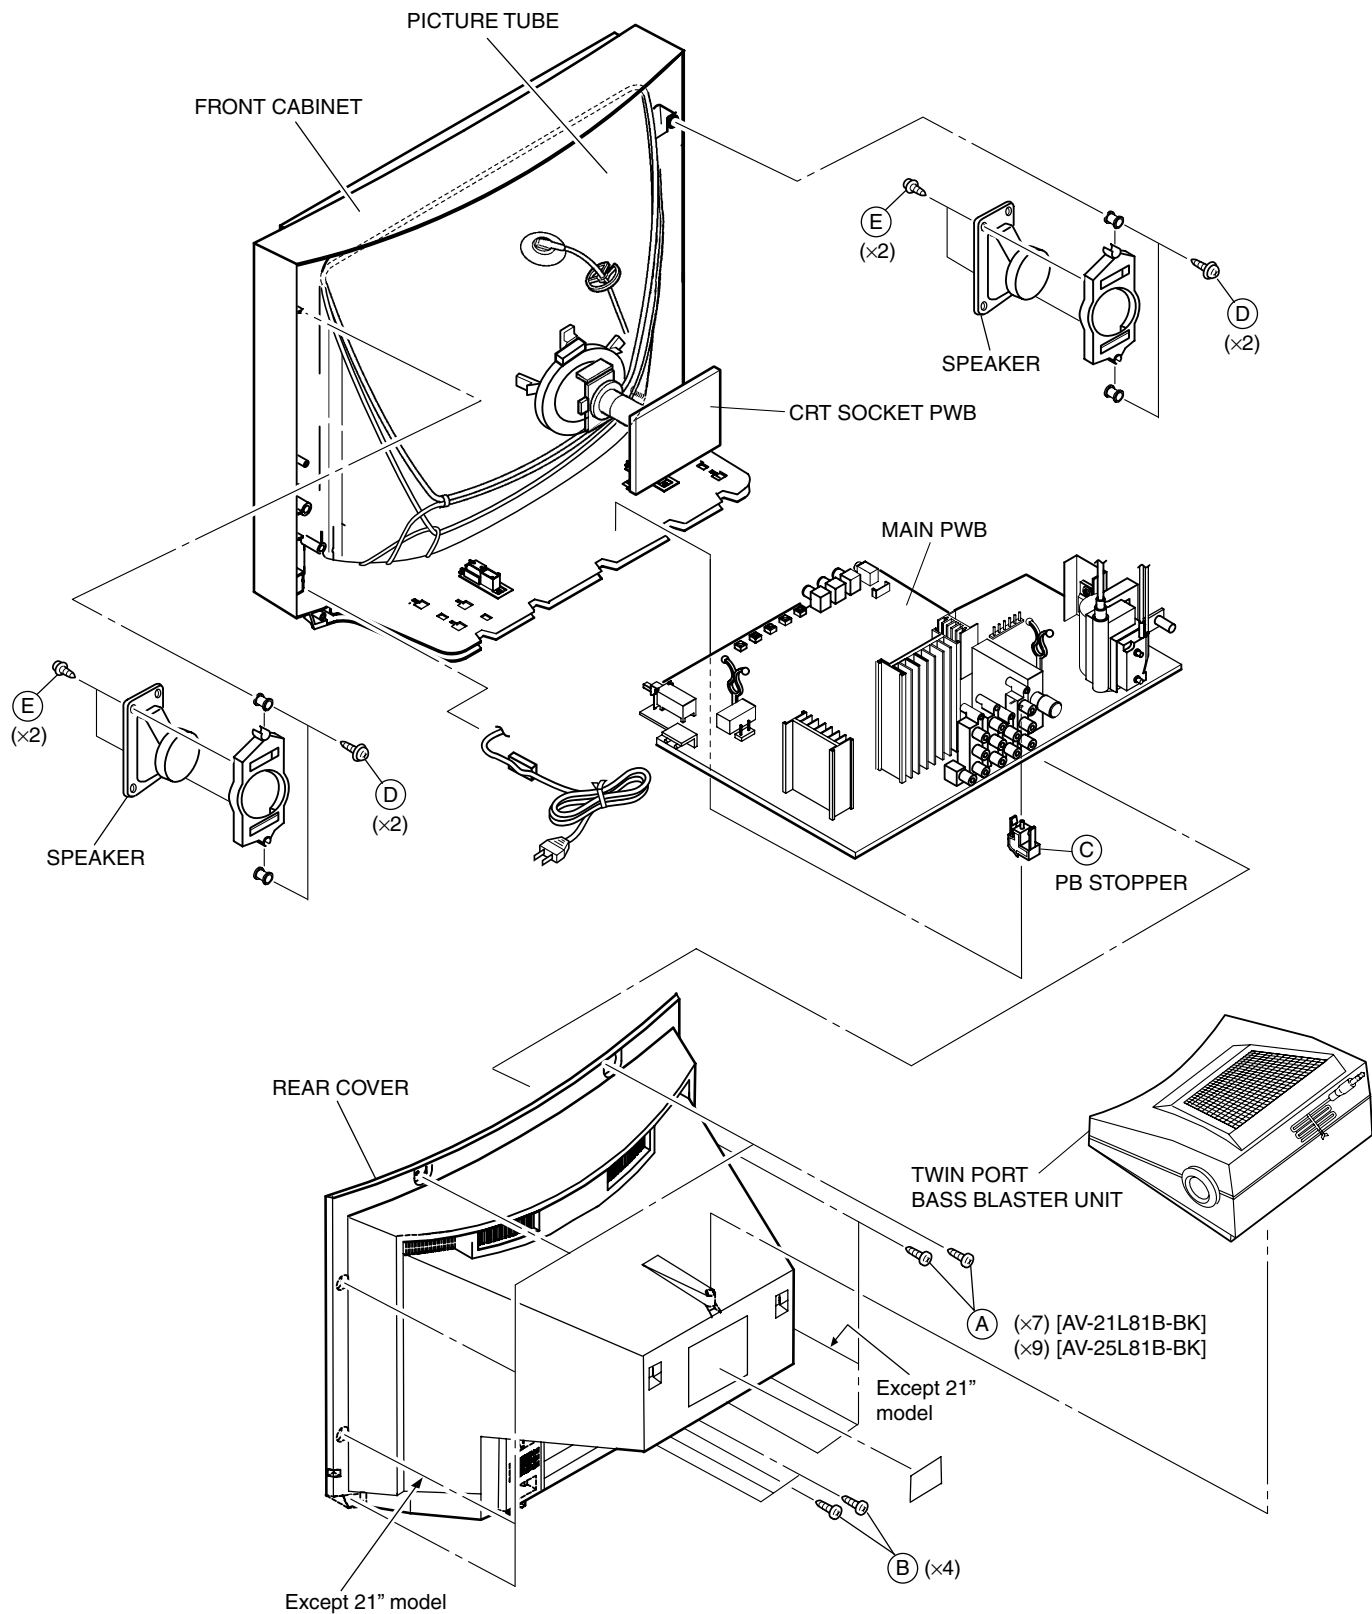

Fig.1
1. Remove the 7 or 9 screws marked (A) and 4 screws marked (B) as shown in Fig.1.
1. Remove the 2 screws marked (D) and 2 screws marked (E) as shown in Fig.1.
The SERVICE MENU screen will be displayed.(See Fig.1.)